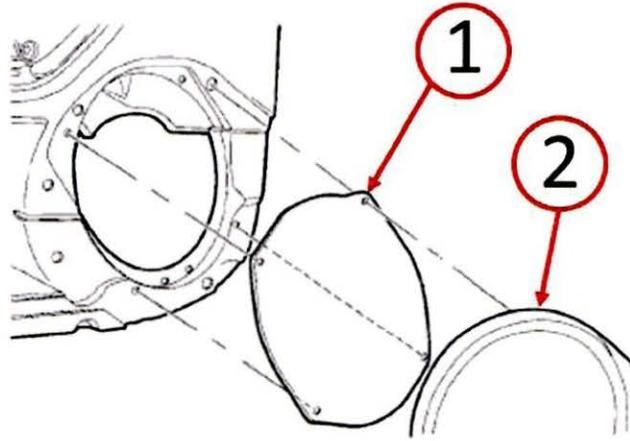

Fig. 11 Rear Door Speaker
11. Rear door only, install the speaker (1) and speaker grille (2). Refer to the detailed repair procedures available in: DealerCONNECT> TechCONNECT under: 08 - Electrical> 8A - Audio/Video/Entertainment/Connectivity> SPEAKER> Installation (Fig. 11).